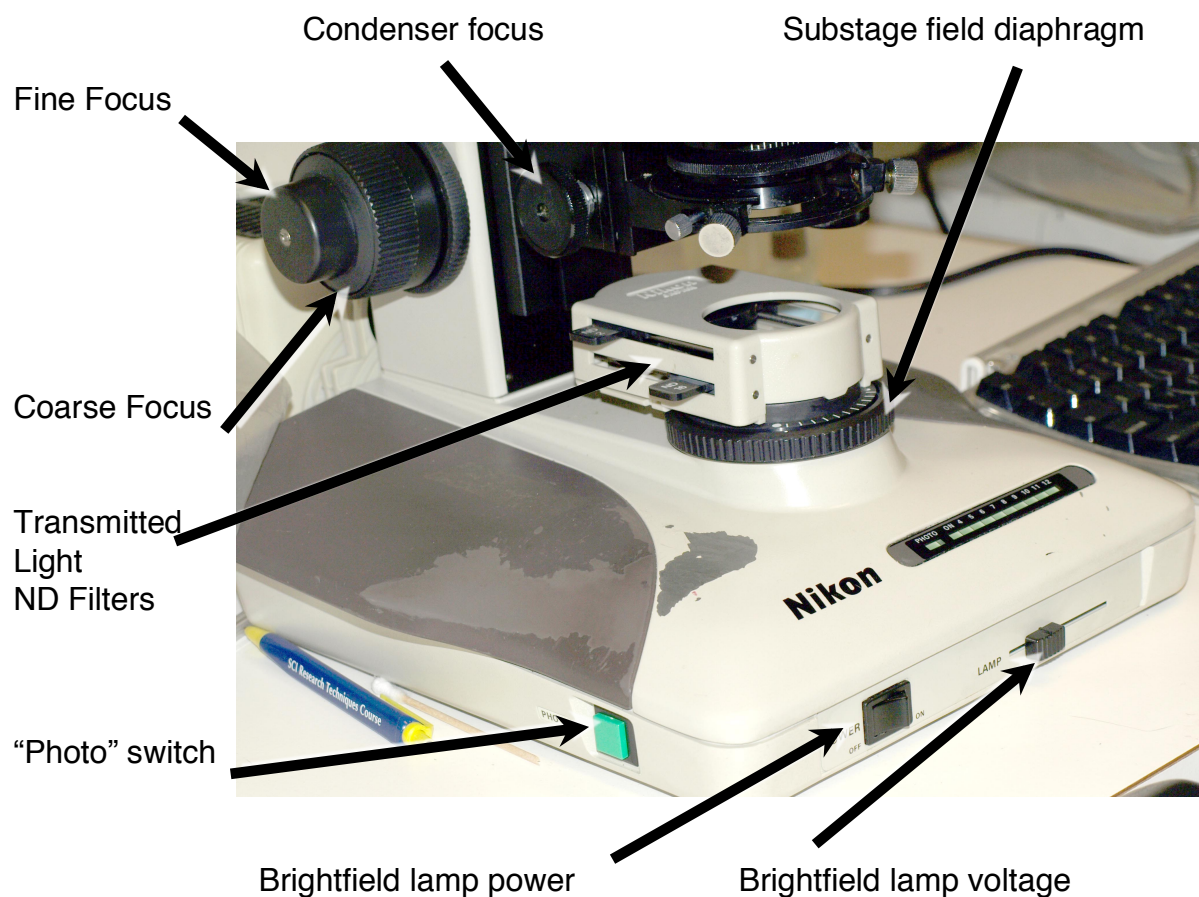
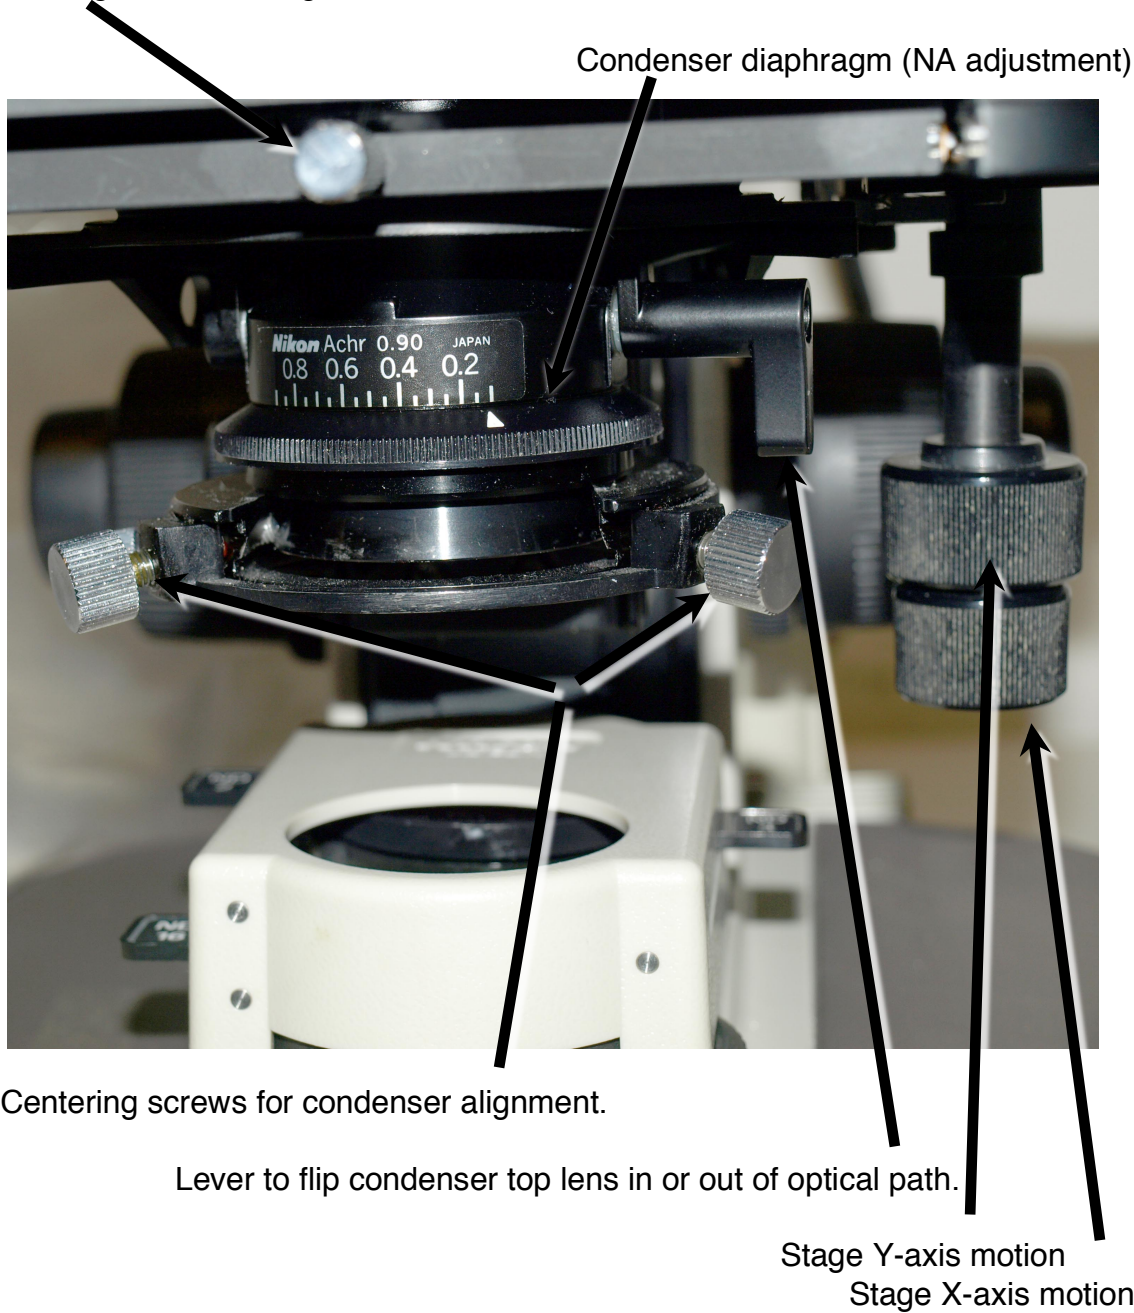

Figure 1. Sub-stage Controls
Figure 2. Sub-stage Condenser
2. Transmitted Illumination with halogen lamp (Figure 1).
- 2.2.2. Neutral density filters mounted below the condenser (Figure 1, Table 2)
3. Set Koehler Illumination for objectives 10X and above (Figure 1, Figure 2)